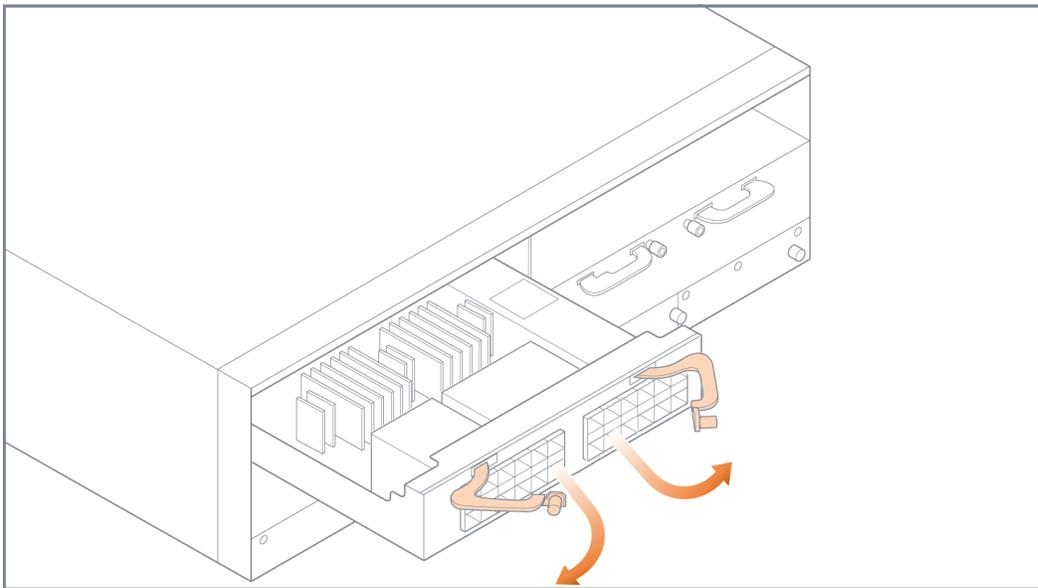

Figure 10 *Module Levers*
1. Pull out the two levers at the top of the module as shown in Figure 10 **Module Levers**.